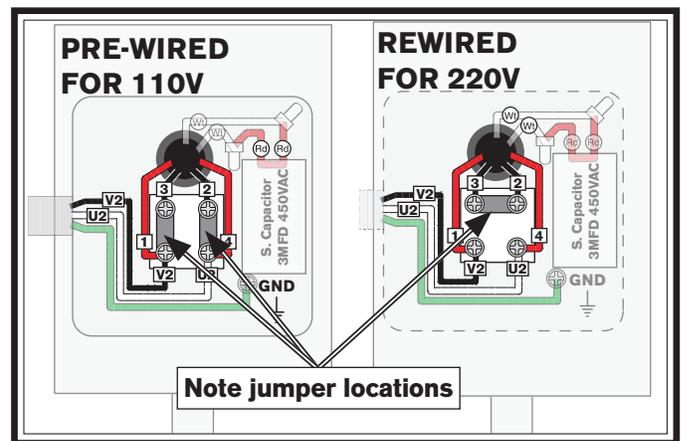

Figure 51. Pump motor rewired for 220V.
8. Remove the pump motor junction box cover, then re-configure the pump motor jumpers as shown in **Figure 51**.